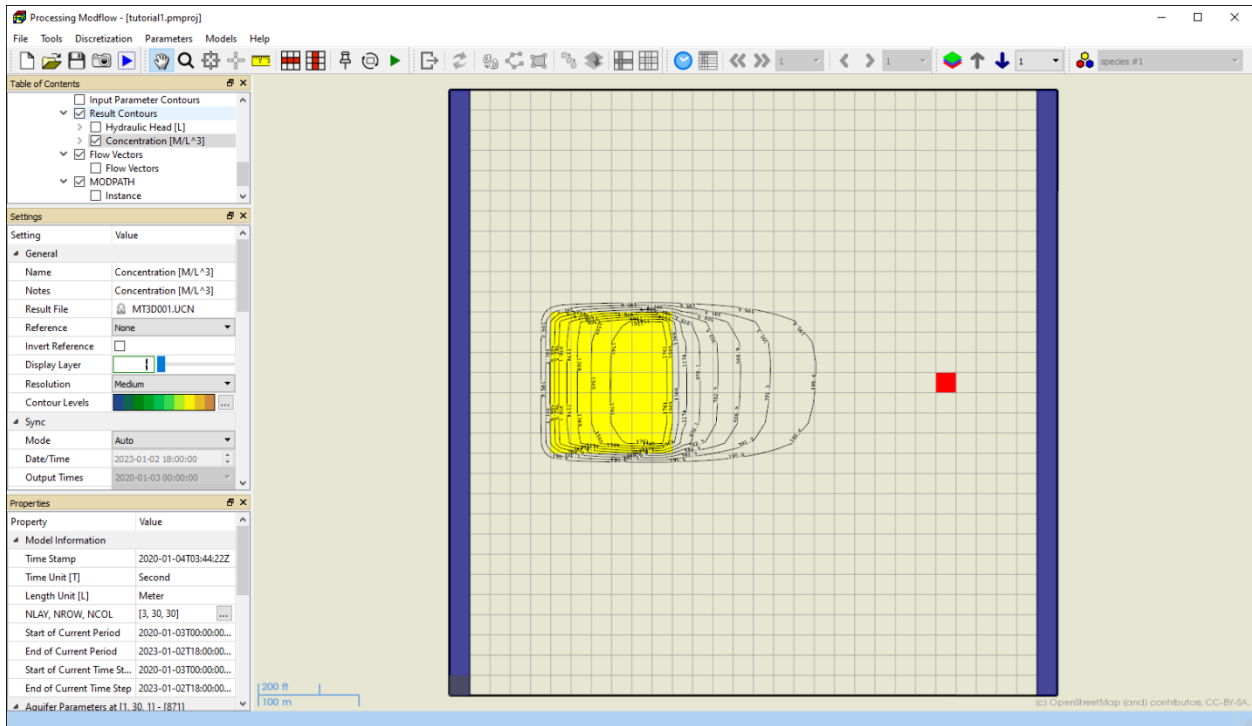

Figure 29. The concentration contours in Layer 1
- PM will add an “Concentration [M/L³]” item to the TOC and will display the contours on the Map Viewer using the calculated concentration values at the end of the current time step and stress period. The contours in Layer 1 should look like Figure 29. You may use the Settings window to use the concentration values at another time point.